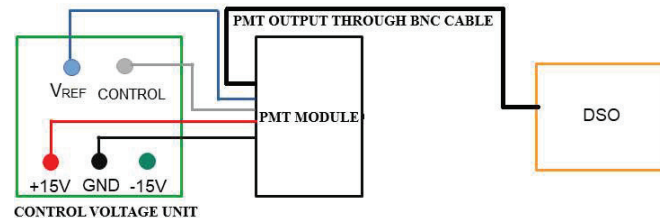

Figure 7: Schematics of Connections of PMT module to control voltage unit
2. Connect the control voltage unit to the AC mains and to the PMT module as marked on its rear side (see Fig.7).